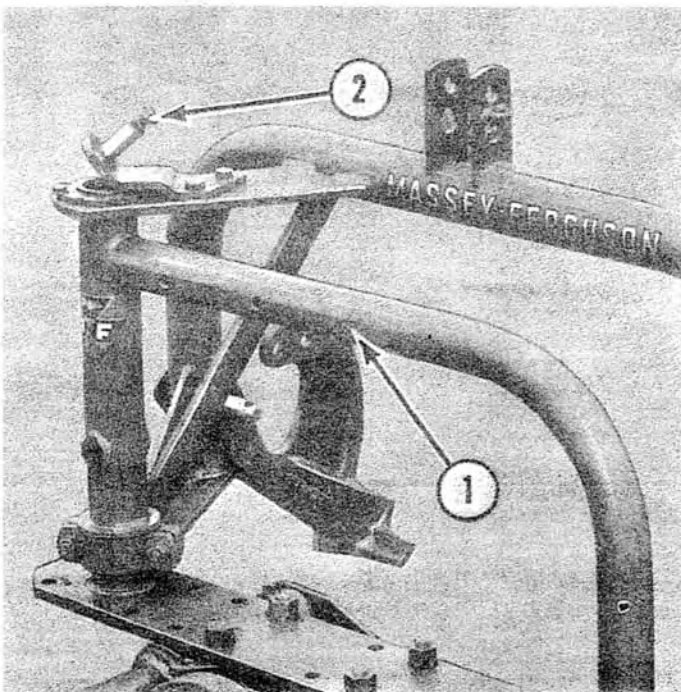

Fig. 57 - Spring Adjustment Holes
11. Install the support bracket for the counterbalance spring to the upper main frame securing it with the bolt provided. Use the position indicated at No. 1, Fig. 57, for a 72-76" wheel setting. Use the hole at the far left for a 52-56" wheel setting, and the center hole for a 62-66" wheel setting.
12. Attach the lift rod assembly (No. 1, Fig. 59) to the stud welded to the bracket at the left rear of the lift frame (No. 2, Fig. 57). Use the nut, plain washer, and lockwasher provided. Attach the forward clevis end (No. 2, Fig. 59) to the appropriate hole in the lift arm assembly by means of a clevis pin and lock with a cotter pin. The clevis pin (No. 3, Fig. 59) is attached in the correct position for all models of the TO 35 Tractor and for the standard clearance MF 50 Tractor. Use the hole, No. 4, for all models of the MF 65 Tractor and the high clearance MF 50. Use hole No. 5 for all models of the MF 85 and Super 90 Tractors.